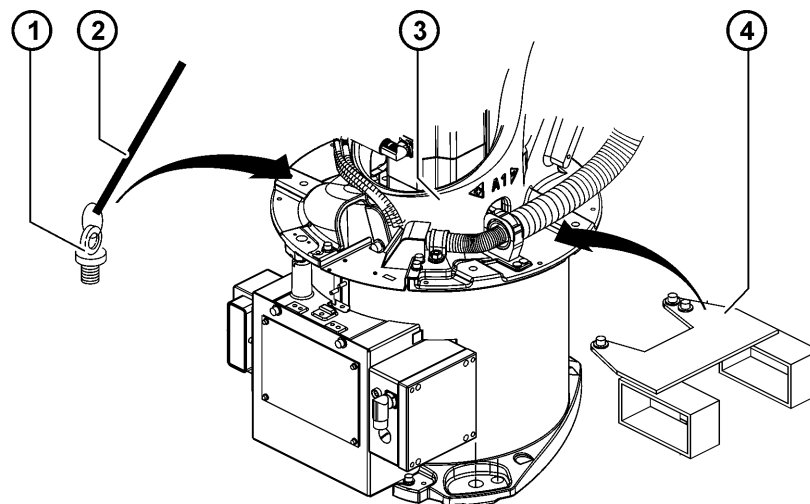

Fig. 12-1: Transporting the robot during removal
3. Mount the fork slots (>>> Fig. 12-1) or 3 eyebolts on the rotating column.